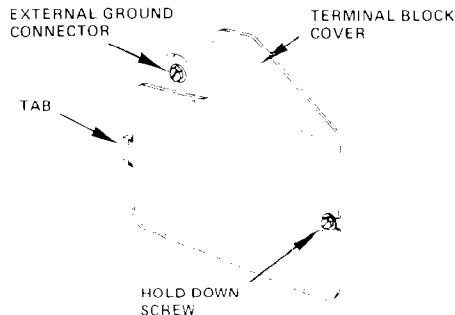
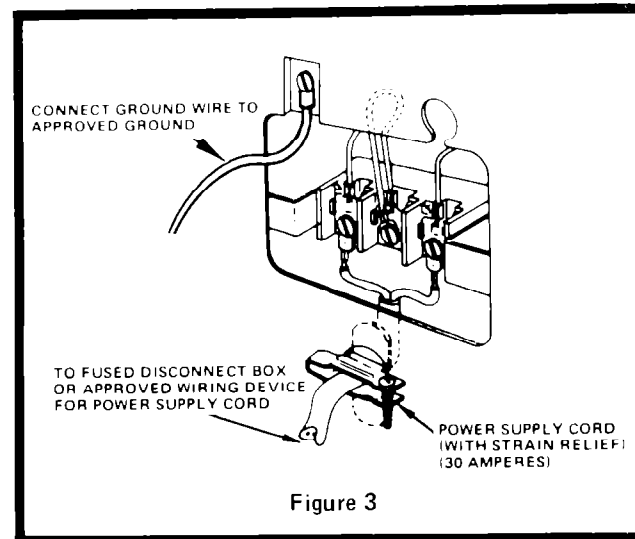

Figure 2
Figure 3
1. Remove the terminal block cover by removing screw shown in Figure 2.
2. Connect the two wires of the power supply cord to the outer terminals of the terminal block, Figure 3. For connecting plain-end field wire, Figure 4. Replace the terminal block cover by first installing the tab of the cover into the slot of the dryer rear panel as shown in Figure 2. Secure the cover with the mounting screw.
1. Remove the terminal block cover, Figure 2.
4. Replace the terminal block cover by first installing the tab of the cover into the slot of the dryer rear panel as shown in Figure 2. Secure the cover with the mounting screw.